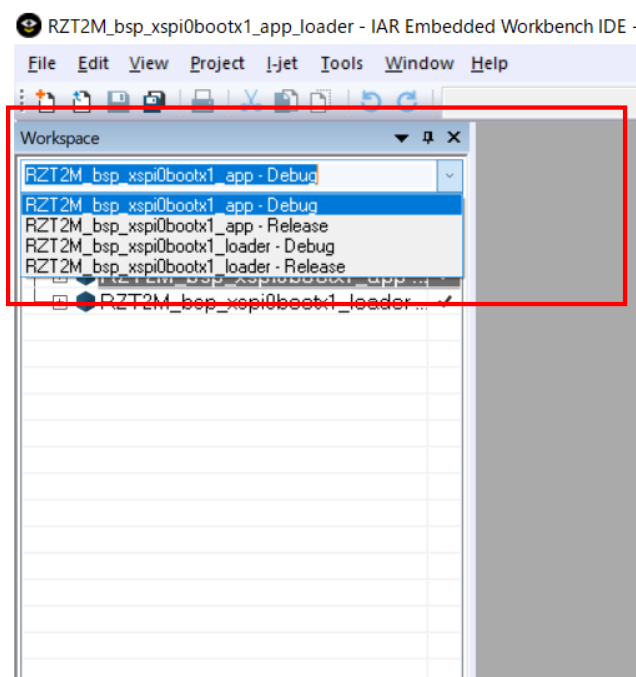

Figure 6.1 Project selection
2. Select "RZ/T2M_bsp_xspi0boot1_app" project in Workspace box as Figure 6.1.